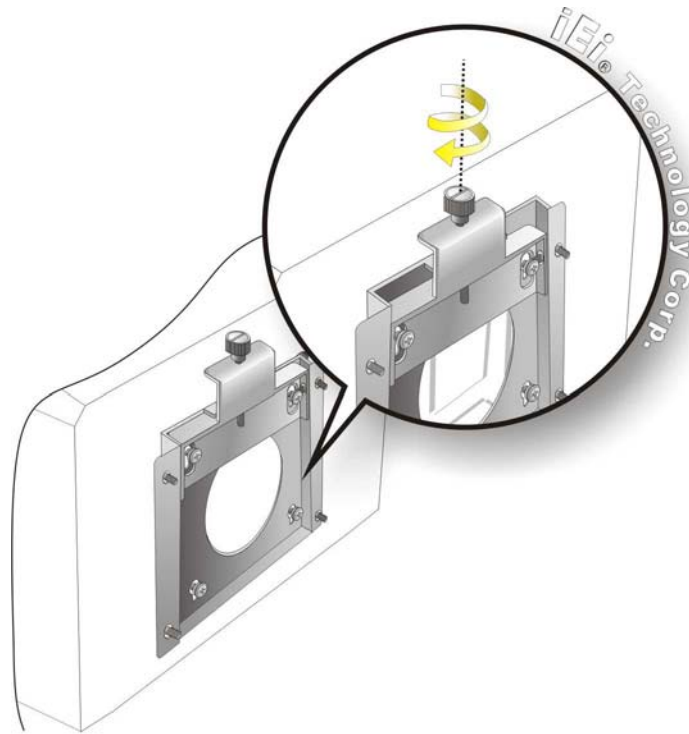

Figure 3-23: Secure the Panel PC
- Step 9:** Secure the panel PC by fastening the retention screw of the wall-mounting bracket. (Figure 3-23).